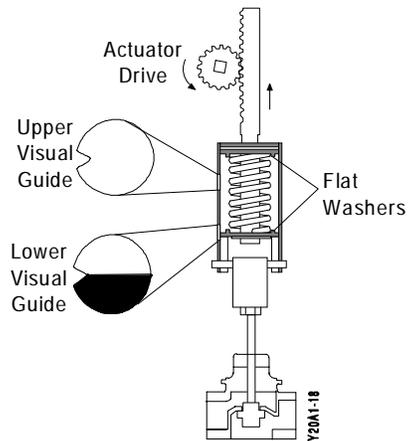

Figure 18: Lower Visual Guide Indicating Full Up Travel
6. As shown in Figure 18, the edge of the lower flat washer should appear opposite the notch in the lower visual indicator to indicate compression of the spring with the valve seated.